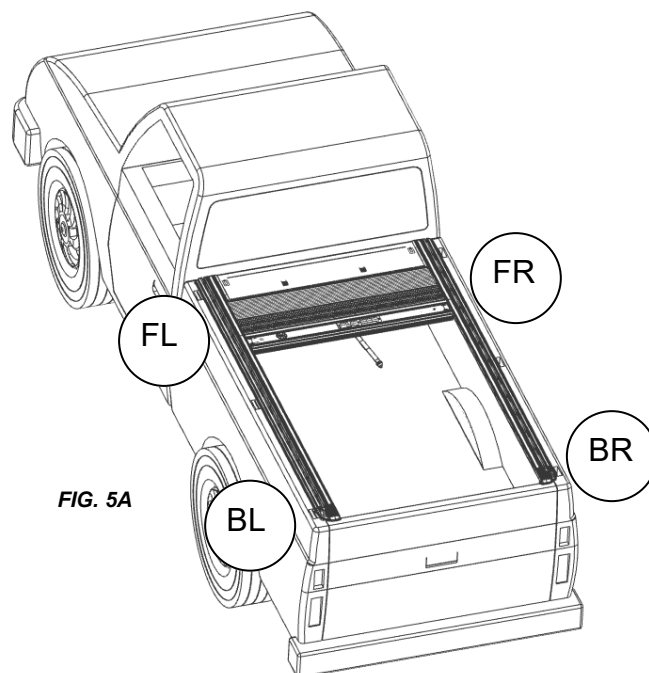

FIG. 5A
Slide the clamp extensions on the tailgate and cab end of each rail as pictured in Figure 5A-5E. Ensure that your tailgate end and cab end extensions are in the correct orientation and have the correct stick on shims. Each clamp extension is labeled for front left (FL), front right (FR), back left (BL), and back right (BR). The extensions go on the corners shown in figure 5A.